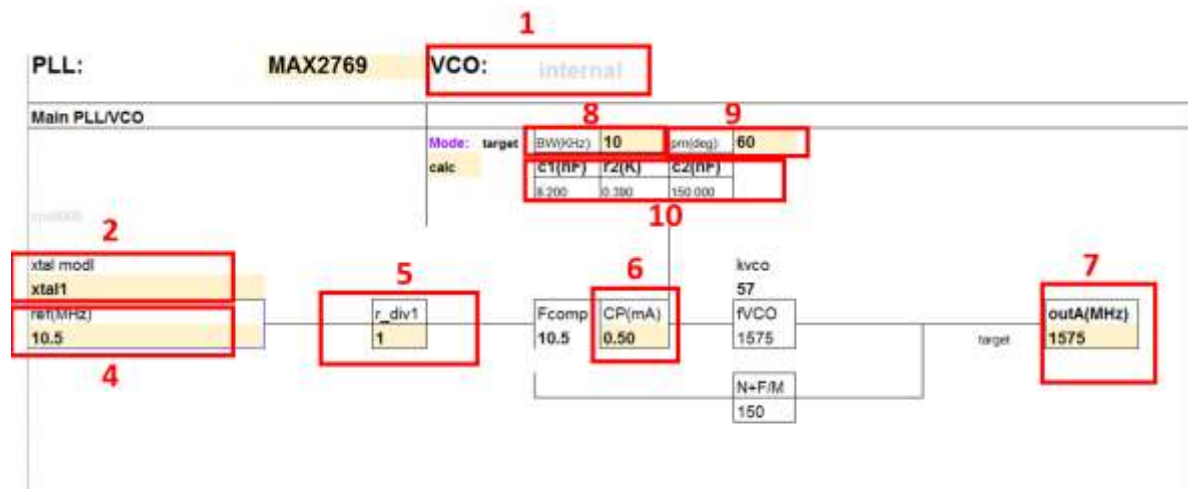

Figure 5. Loop filter spreadsheet calculator.
4. The reference input frequency can be entered under the cell ref(MHz), as shown in Figure 5. It ranges from 8MHz to 32MHz.